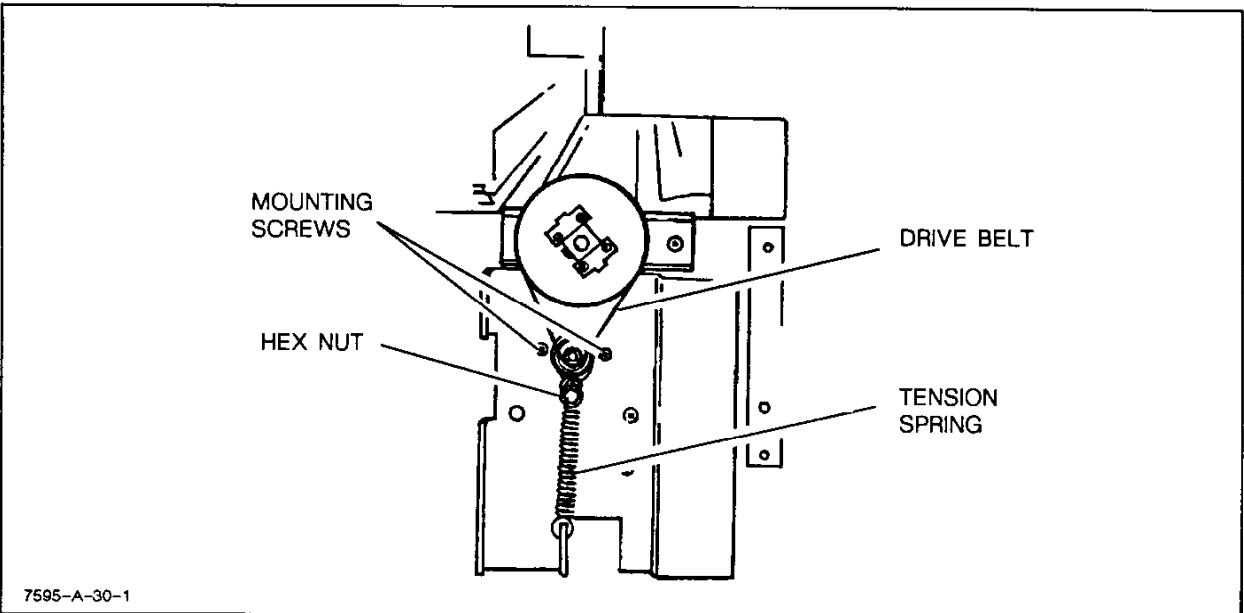

Figure 6-21. Grit Wheel Drive Belt Removal
- c. Remove the tensioning spring. See Figure 6-21.